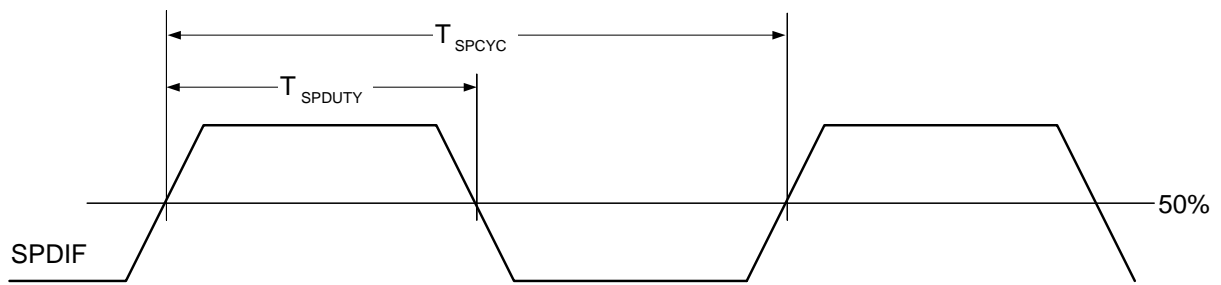
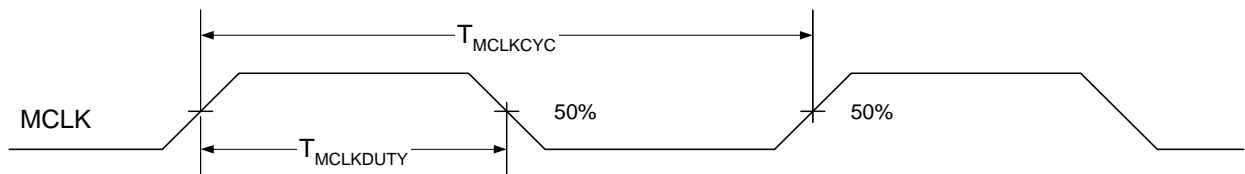

Figure 14. S/PDIF Output Timing
Figure 15. MCLK Timing
1. Proportional to unit time (UI), according to sample rate. Refer to the S/PDIF Specification.
2. Refer to Figure 14 and Figure 15 on page 19.